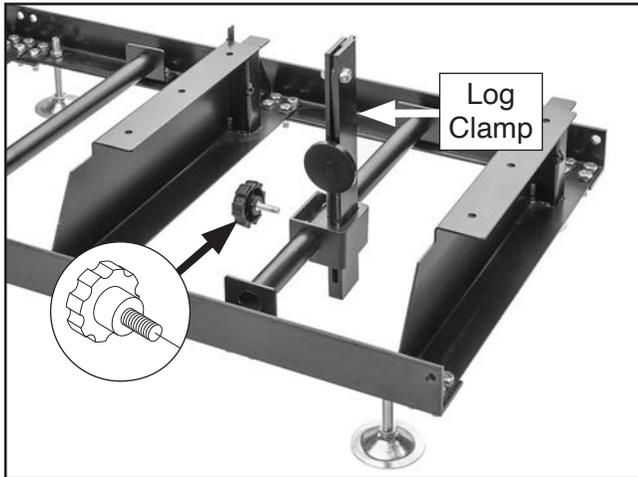

Figure 23. Log clamp installed in receiver.
17. Insert log clamps in receivers and secure with (2) $\frac{5}{16}$ "-18 x $\frac{5}{8}$ " knob bolts, as shown in **Figure 23**.